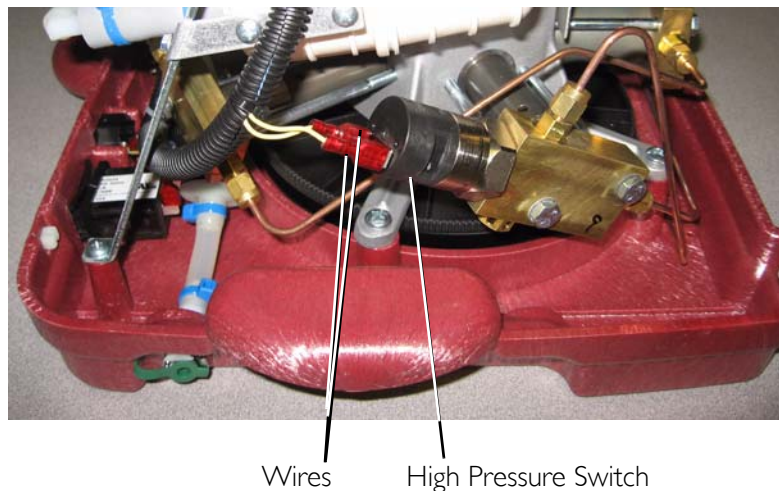

FIGURE 12.2 Timing Belt Replacement
8. Disconnect the two wires from the high pressure switch (FIGURE 12.2).
17. Connect the two wires to the high pressure switch (FIGURE 12.2).